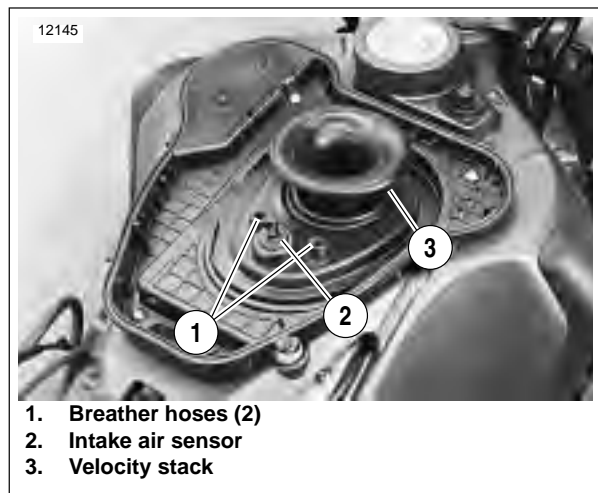

Figure 1-45. Air Cleaner Baseplate Assembly
3. See Figure 1-45. Make sure two crankcase breather hoses (1) and intake air sensor (2) are captured in baseplate behind velocity stack (3).